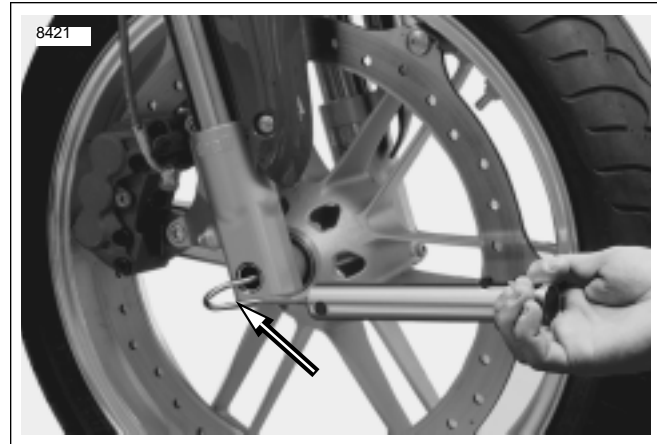

Figure 1-36. Measuring Steering Head Bearing Resistance
6. See Figure 1-36. Hook a spring scale into the hole in the front axle. With scale 90 degrees from fork leg, pull front wheel to center position.
7. See Figure 1-36. Hook a spring scale into the hole in the front axle. With scale 90 degrees from fork leg, pull front wheel to center position.